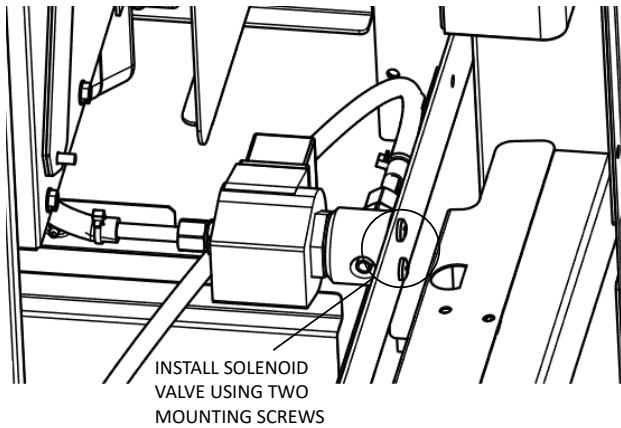

Figure 4. Install Solenoid Valve
14. Secure the solenoid valve to the mounting surface using two screws. Reconnect hoses and the two wires to the unit's harness removed in Step 10. See **Figure 4**.